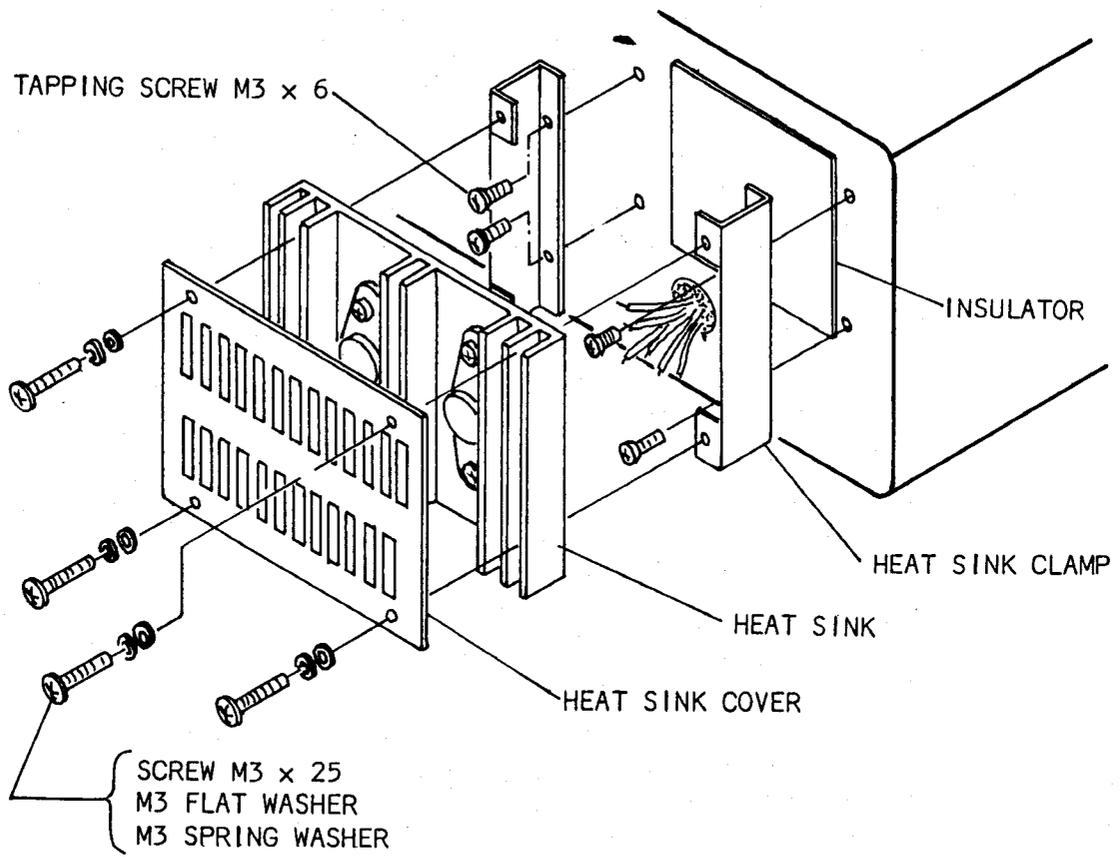

FIGURE 6-19
2. Take the protection paper off from the 1429A insulator and stick the insulator to the back panel, as shown in Fig.6-19.
3. Screw the heat sink spacers onto the back panel as illustrated in Fig.6-19, using the self tapping screws provided.